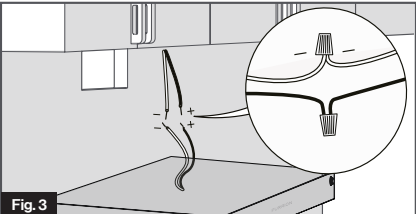

Fig. 3
- Connect the vent hood black wire negative (-) to the incoming power supply negative (-) wire and the vent hood red wire positive (+) to the incoming power supply positive (+) wire. (Fig 3)